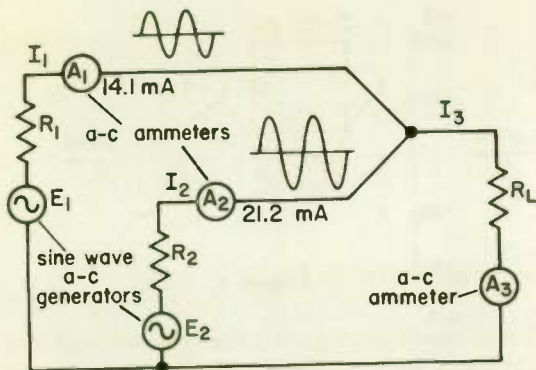
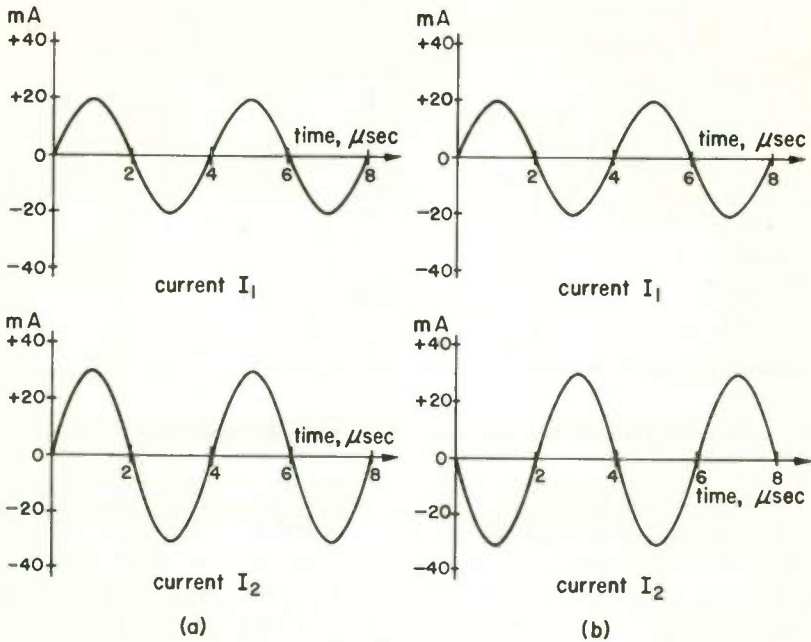
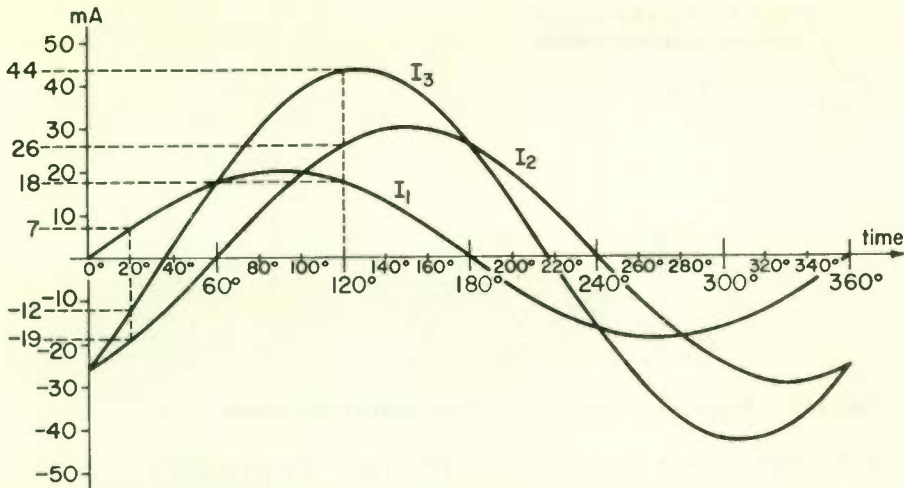
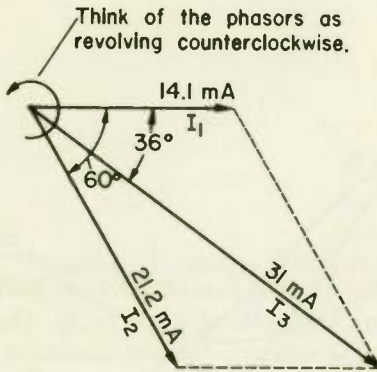

Fig. 6 Kirchhoff's current law applies here, but vectorial addition must be used.
Fig. 7 The currents in (a) flow in the same direction, and in (b) in opposite directions.
Fig. 14 I_1 , and I_2 of Fig. 6 when I_2 is lagging I_1 by 60° .
Fig. 15 Finding the vectorial sum of two current sine waves.
What does ammeter A_3 in Fig. 6 read? Applying Kirchoff's current law as we used it in d-c circuits, we could say that A_3 will read $14.1 + 21.2 = 35.3 \text{ mA}$ if currents I_1 and I_2 are flowing in the same direction and that A_3 will read $21.2 - 14.1 = 7.1 \text{ mA}$ if I_1 and I_2 are
It is also possible in Fig. 6 for I_1 and I_2 to flow in the same direction for part of a cycle and in opposite directions for the rest of the cycle. In that case, we can't describe the two currents as either flowing in the same or as flowing in opposite directions, except for specified parts of a cycle. Ammeter A_3 then reads somewhere between its maximum possible reading of 35.3 mA when the two currents flow in the same direction and the minimum possible reading of 7.1 mA when the two currents flow in opposite directions. From the limited information in Fig. 6 all we can tell about what A_3 will read is that it will be somewhere between 7.1 mA and 35.3 mA.
Figure 7(a) shows the sine waves for I_1 and I_2 when the two currents are always flowing in the same direction, and Fig. 7(b) when they are always flowing in opposite directions. A positive value for the current indicates one direction, and a negative value the opposite direction. During the time between 0 and $2 \mu\text{sec}$ (microseconds), both currents in (a) have a positive value, which means they are both flowing in the same direction. At $2 \mu\text{sec}$ the current reverses. Between 2 and $4 \mu\text{sec}$ the currents in both branches are negative, which means that I_1 is still flowing in the same direction as I_2 but both I_1 and I_2 are flowing
In Fig. 7(a) the two currents are exactly in phase (phase angle 0°), and this is a requirement if the two currents are at every moment to be flowing in the same direction with respect to each other. In Fig. 7(b) the two currents are completely out of phase (180° out of phase), and this is a requirement if the two currents are at every moment to be flowing in opposite directions.
During the one half of each cycle when the current direction is the same as the directions in which the arrows point in Fig. 8, we say that the current is positive. During the other half of each cycle, the current direction is opposite the arrows, and we say that the current is negative. Thus in Fig. 7, where the current is shown as having both positive and negative values, positive simply means that the current direction is the same as the arrows on the diagram and negative means that the direction is opposite the arrows. "Positive" and "negative," as the terms apply to current direction, are nothing more than two words for distinguishing one current direction from another. Since over the time of several cycles an a-c current flows in one direction as much as in the other, the terms "positive current direction" and "negative current direction" have no meaning except when referring to the current direction during a specific part of a cycle.
10. Why do the waves of Fig. 7 show peak values of 20 and 30 mA, respectively, for I_1 and I_2 , while ammeters A_1 and A_2 in Fig. 6 read only 14.1 and 21.2 mA?
Waves I_1 and I_2 in Fig. 14 show I_1 and I_2 of Fig. 6 when I_2 is lagging I_1 by 60° . Note in Fig. 14 that, between time 0° and time 60° , I_1 and I_2 flow in opposite directions, as shown by the fact that I_1 is positive and I_2 is negative during that period. Between time 60° and time 180° , both I_1 and I_2 are positive, and therefore the two currents flow in the same direction during this part of the cycle.
If I_2 in Fig. 6 lags I_1 by 60° , what will ammeter A_3 read? We have seen that if the two currents flow in the same direction at every moment, then A_3 will read 35.3 mA, and if the two currents are at every moment in opposite directions, A_3 reads 7.1 mA. Since for a phase
In Fig. 14 sine wave I_3 is the sum of I_1 and I_2 when the phase angle between the two is 60° . To see how I_1 and I_2 are added to get I_3 , we will find I_3 at time 120° . The graph shows that I_1 is approximately 18 mA and I_2 is approximately 26 mA at time 120° . Hence, the value of I_3 at 120° is 18 mA + 26 mA = 44 mA. As another example of how I_3 is plotted, at time 20° I_1 is +7 mA and I_2 is -19 mA. Hence, I_3 at this moment is -19 mA + 7 mA = -12 mA.
The sum curve I_3 in Fig. 14 has a peak value of approximately 44 mA. However, since an ammeter reads effective values and not peak values, A_3 in Fig. 14 will read $0.707 \times 44 = 31$ mA, approximately. The current I_3 is not in phase with either I_1 or I_2 . Noting in Fig. 14 that I_1 crosses the horizontal time axis at 0° and that I_3 crosses this axis at approximately 36° , we know that I_3 lags I_1 by about 36° and therefore leads I_2 by approximately $60^\circ - 36^\circ = 24^\circ$.
- 4** PHASORS: THE EASY WAY TO ADD CURRENTS . . . The method used in Fig. 14 to add two current sine waves shows you what is meant by the sum of two out-of-phase currents, but it is too laborious to be practical. The easy way is to use phasors.
Figure 15 shows the use of phasors to find what ammeter A_3 will read in Fig. 6 if I_2 lags I_1 by 60° . We draw the phasors carefully to scale and then measure the length of the resultant I_3 . Remember always to think of phasors as revolving counterclockwise, and therefore I_2 lags I_1 when drawn as in Fig. 15; that is, I_1 is in the lead as the phasors spin around counterclockwise. Measuring the angle between I_1 and I_3 with a protractor, we find that I_3 lags I_1 by 36° . Also, I_3 leads I_2 by 24° .